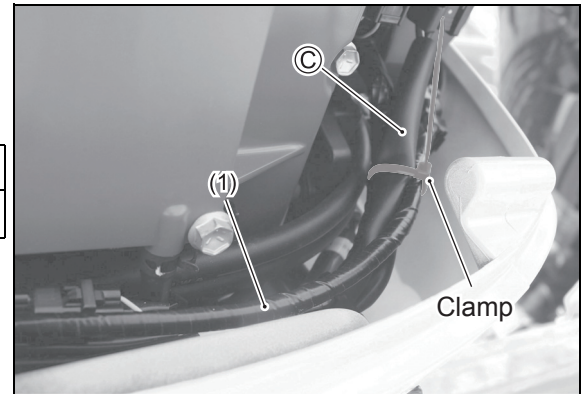

Fig. 4
5. Fix the engine adapter wire (1) to the engine harness © using the clamp as shown in Fig. 4.